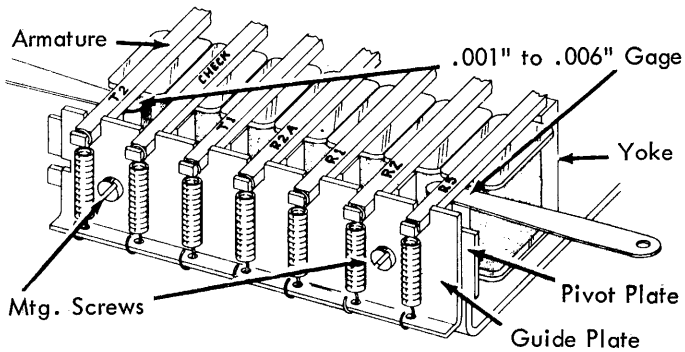

FIGURE 27. Pivot Plate
- Pivot Plate (Fig. 27) - Adjust for a clearance of .001" to .006" between the yoke and armatures with the armatures manually attracted. Measure clearances at the outside armatures (T2 & R5).
- Guide Plate (Fig. 27) - Position as follows:
- c. Apply slight pressure to the T2 and R5 armatures (Ref. Fig. 27). Both armatures should be touching the trip bail. If not, adjust the pivot eccentrics to satisfy this condition.